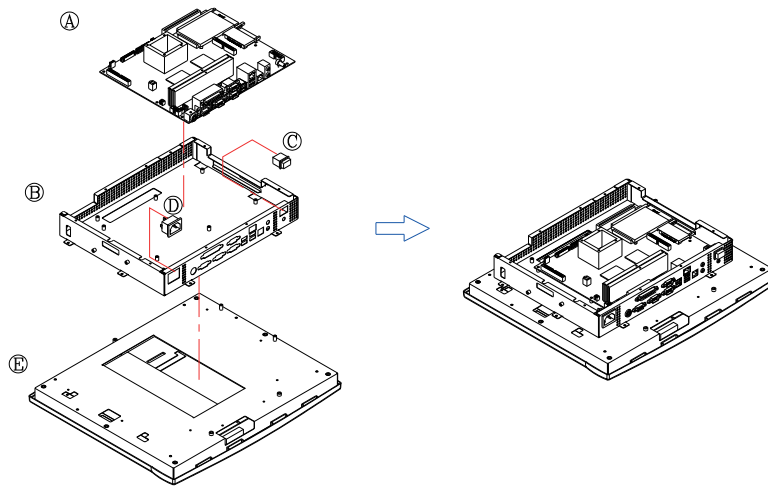

FIGURE 5-5: MOTHERBOARD ASSEMBLY
1. Refer to Figure 5-5. There is a cutout at the left upper side of the chassis. The I/O outlets are at the bottom side of the chassis. Make sure the I/O side of the chassis near you.
5. Insert the power switch (C) to the small rectangle opening at the right bottom side of the chassis. The other end of the switch cable is to be connected to the 2-pin POWER ON switch, **CN3** on the motherboard.
6. Insert the 3-pin AC inlet (D) to the small rectangle opening at the right bottom side of the chassis.